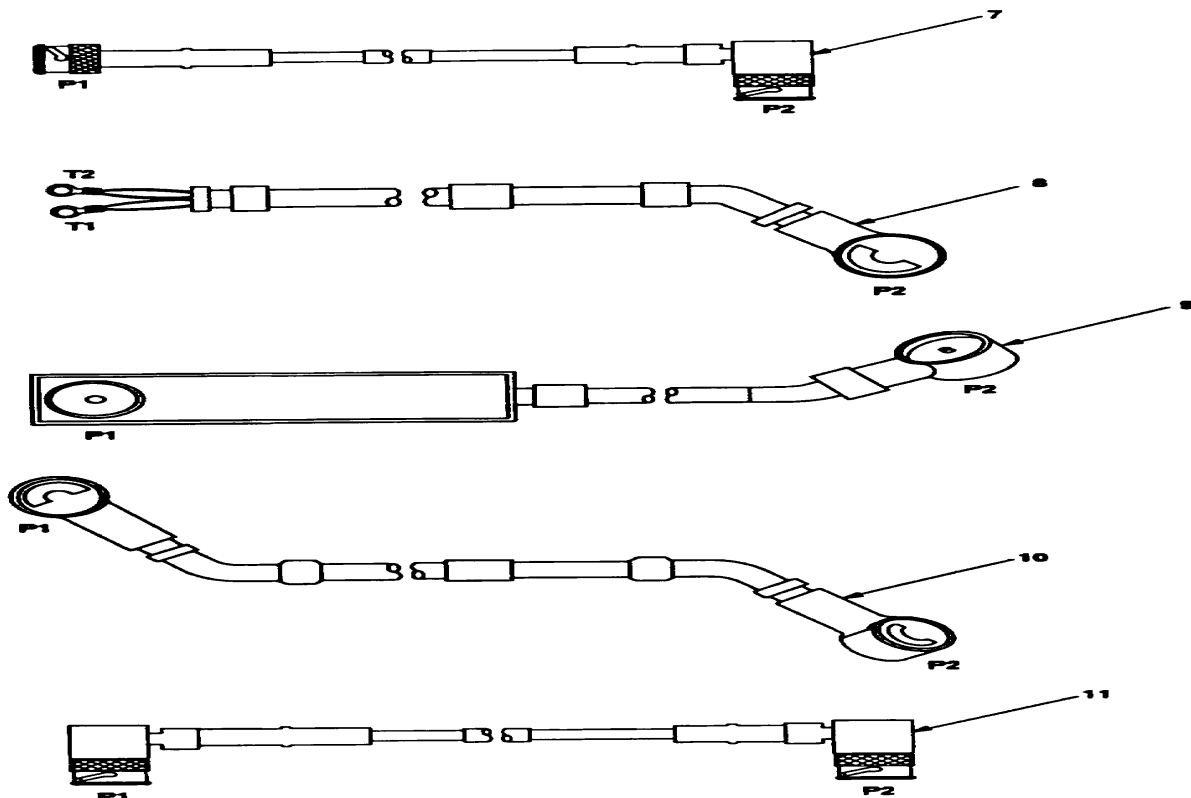
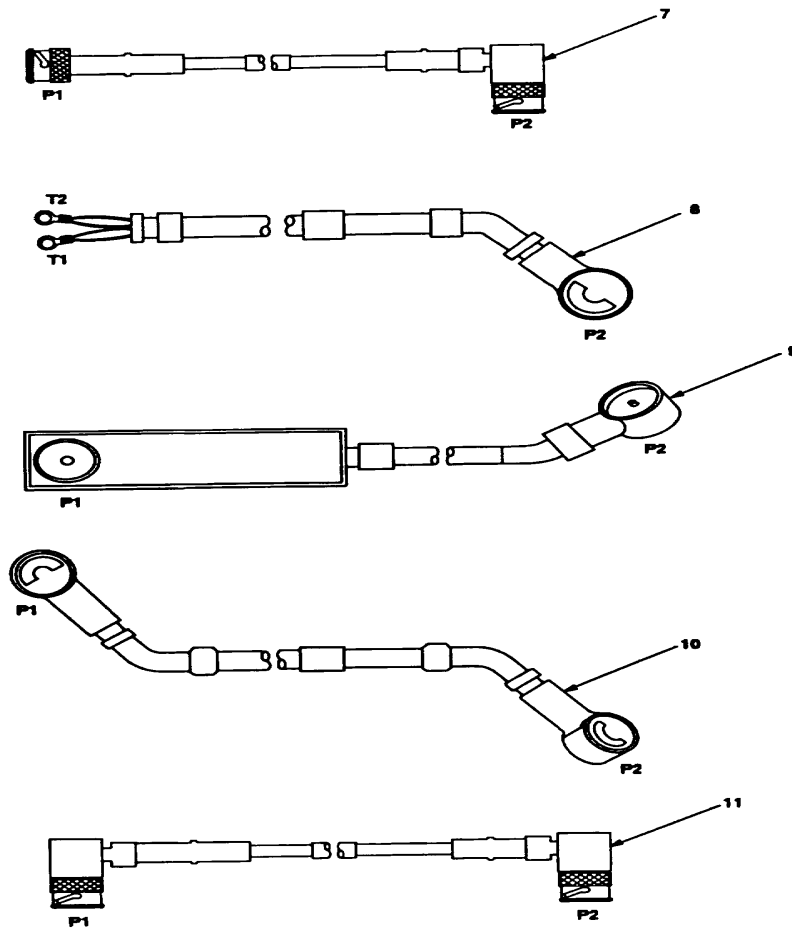

Figure 4-2. Illustrated Parts List for Table 4-2
Figure 4-3. TSECIKY-57 Illustrated Cables List
**4.3.1 Items Supplied in MK and/or Required for Installation.** Use Table 4-1 and figure 4-1 to identify and inventory MK parts supplied to install Radio Set ANIVRC-92 Series. Refer to Table 4-2 and figure 4-2 to identify additional items required to install Radio Set AN/VRC-92 Series. Refer to Table 4-3 and figure 4-3 to identify additional items required to install when using RT-1439/VRC.